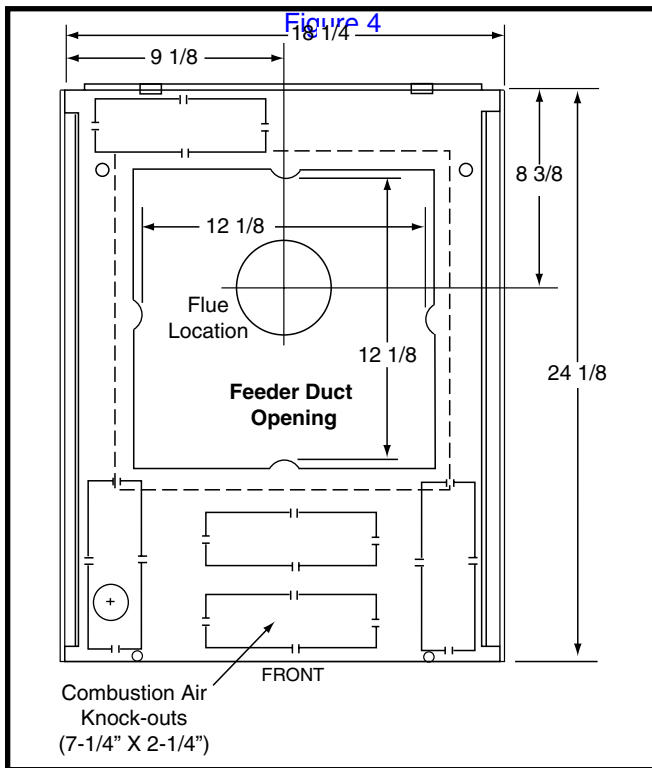

Figure 4. MA-200 Base Pan
1. Using the base pan as a guide, locate and mark the 12 1/8” x 12 1/8” opening for the Feeder Duct. See Figure 4 \(page 9\). **NOTE:** If using the combustion air duct, knock out the duct opening to be used and mark the 2-1/4” x 7-1/4” opening on the floor also.